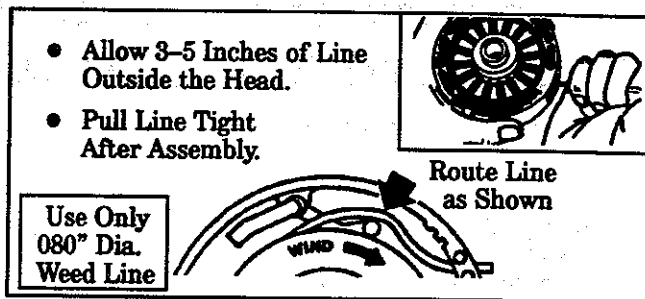

Figure 23
- e. Insert about 6 inches of Line from the inside of the Hub through the Line Exit Hole to the outside to keep the Line from backing into the Head. Figure 23 .
- f. Route the Line behind the Balancing Pin (Figure 23) while carefully placing the Spool in the Hub.
Pin and will feed continuously when the Trimmer Head turns. Remove Cover and re-route Line as shown in Figure 23 .
i. Check to make sure all four Catches and the Lock Tab are properly fastened as shown in Figures 23 & 25 , then test the Cover by trying to turn it counterclockwise.